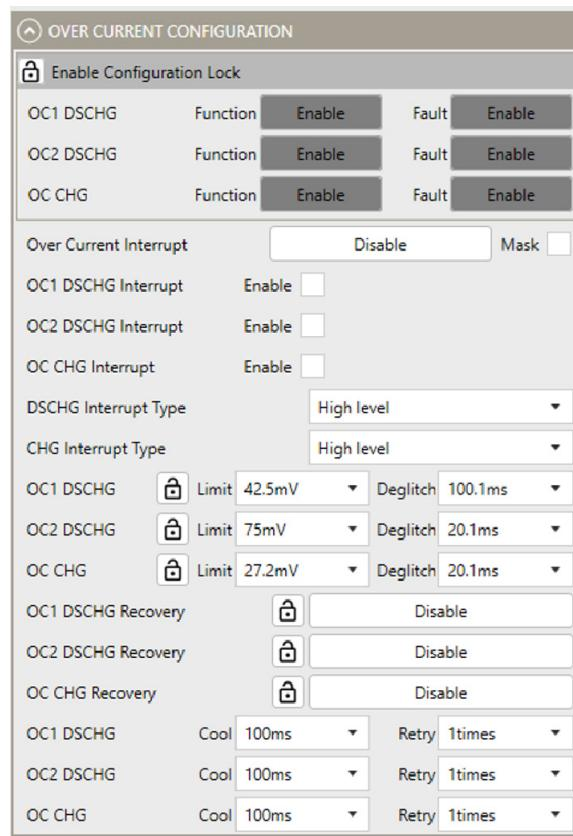

Figure 19: Over-Current Configuration
15. Configure the OC parameters (see Figure 19).